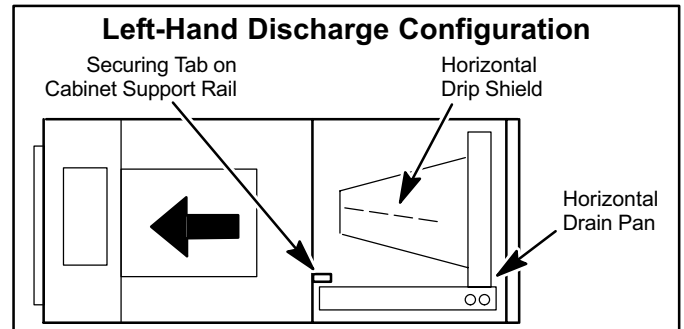

**Figure 4**
1. (See Detail A in figure 4.) Pull coil assembly from unit. Pull off the horizontal drain pan.
4. (See Detail B and C in figure 4.) Remove screws from top cap. Remove horizontal drip shield screw located in the center of the back coil end seal.
7. Rotate top cap 180° front to back and align with unused screw holes. Holes must align with front and back coil end plates. Note that top cap has a 45° bend on one side and 90° bend on the other. **The 90° bend must be on the same side as the horizontal drain pan.** See figure 4.